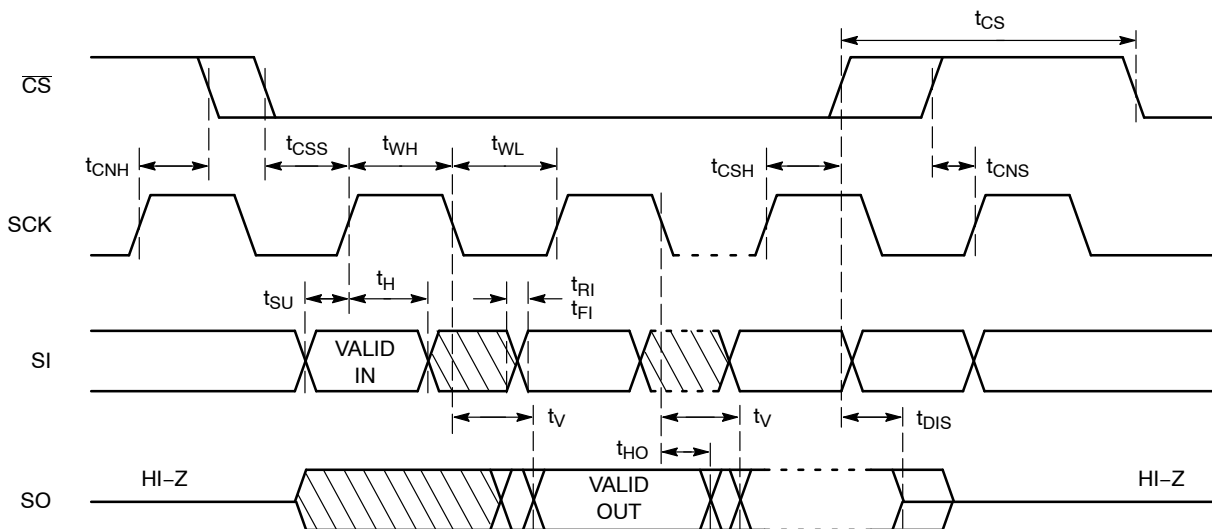

Figure 2. Synchronous Data Timing
9. All Chip Select (CS) timing parameters are defined relative to the positive clock edge (Figure 2). tCSH timing specification is valid for die revision C and higher. The die revision C is identified by letter “C” or a dedicated marking code on top of the package. For previous product revision (Rev. B) the tCSH is defined relative to the negative clock edge.
After a high to low transition on the  $\overline{\text{CS}}$  input pin, the CAT25256 will accept any one of the six instruction op-codes listed in Table 10 and will ignore all other possible 8-bit combinations. The communication protocol follows the timing from Figure 2.